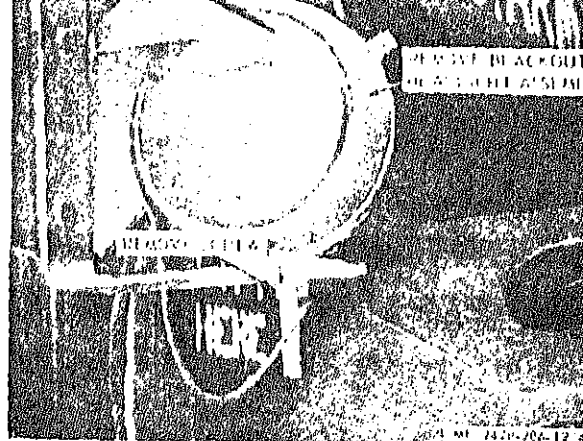

Figure 4-10. Blackout headlight assembly, removal and installation.
a. *Removal.* Refer to figure 4-10 and remove blackout headlight assembly (para 3-15b).
(1) Clean parts and dry thoroughly.
(2) Inspect for cracks, breaks and other damage. Replace defective blackout headlight assembly as necessary.
c. *Installation.* Refer to figure 4-10 and install blackout headlight assembly.